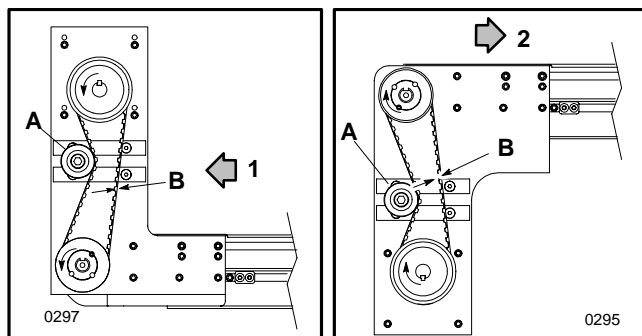

Figure 26: Top (left) and Bottom (right) Drive Timing Belt Adjustment Detail
2. Check the condition of the existing timing belt and replace if worn. As necessary, loosen the belt tensioning roller assembly (A of Figure 26) to remove worn belt.
4. Adjust timing belt tension by loosening the M12 x 25 mm socket head cap screw and sliding the belt tensioning roller assembly (A) against the belt. Tension should be measured at mid-point (B) on the tension side of the timing belt. As a starting point for the tensioning process, there should be a 1/8" (3 mm) deflection with 6 lb (3kg or 26 N) of force.